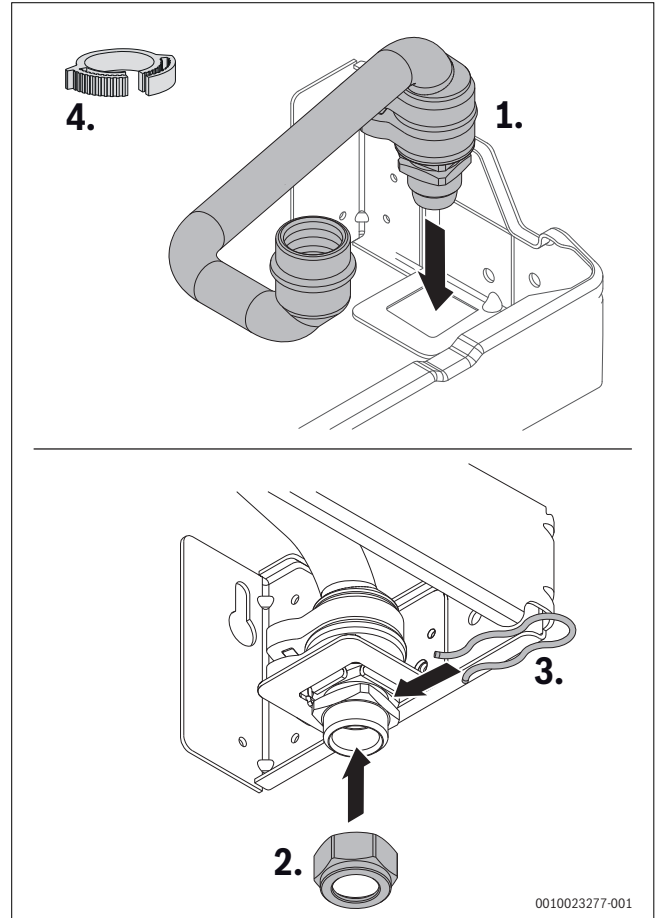
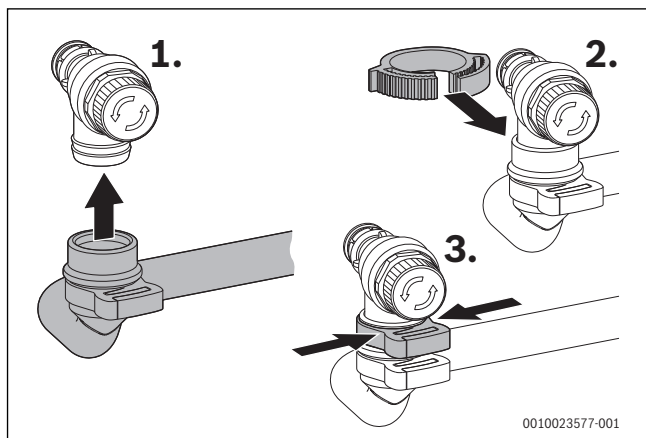

Fig. 43 Connect PRV discharge pipe
Fig. 45 Fitting the pipe on the (heating) pressure relief valve
3. Ensure that 3 black plastic ratchet clips are securely fixed and tightened. Ratchet clip number 4 must be fitted but left loose until the boiler is hung and connection to the PRV is made (→ Fig. 43 and Fig. 45).